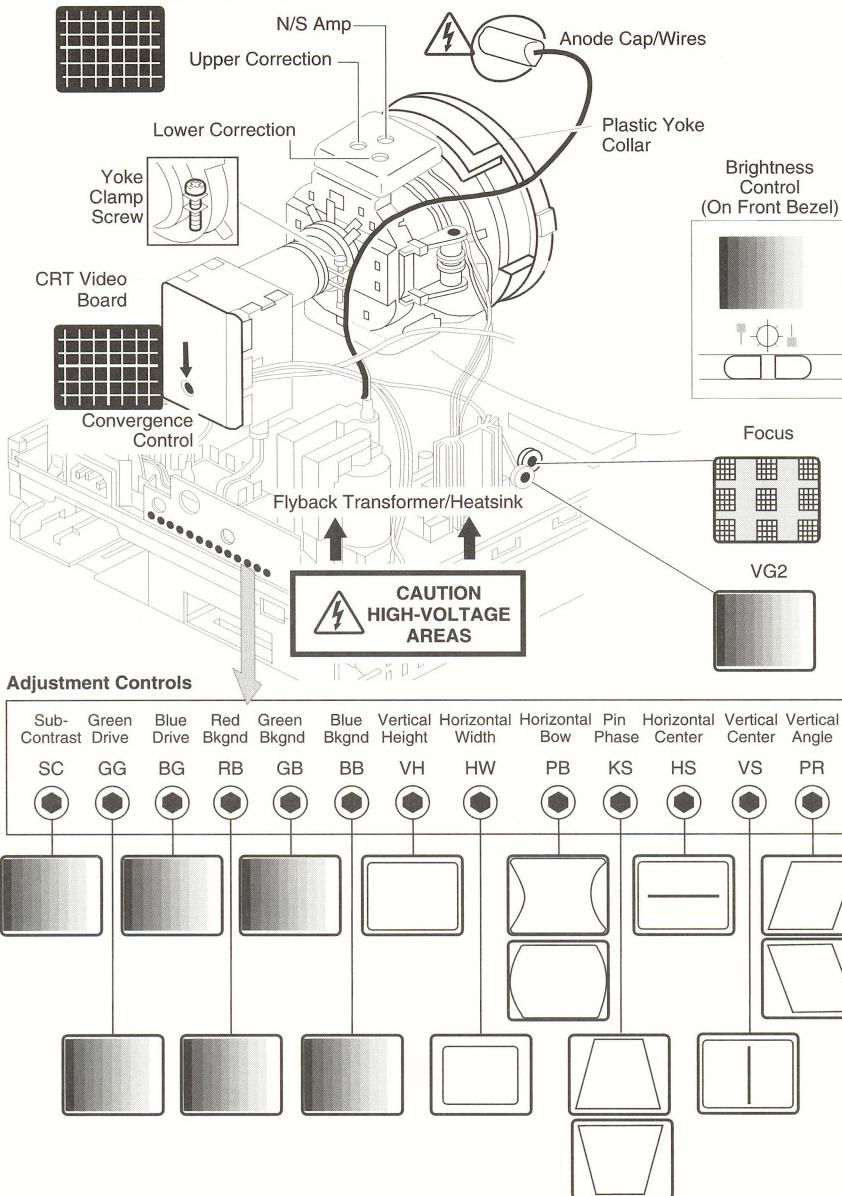

Figure 3 Video Adjustments
Using a hex-head plastic adjustment tool, adjust the vertical and horizontal controls (Figure 3) until the raster is centered in the display area.
1. Adjust the vertical height control (see Figure 3) until the raster is 4.9 inches (\pm 1/16 inch) or 124.5 mm (\pm 1.5 mm). Verify this height.
2. Adjust the horizontal width control (see Figure 3) until the raster is 6.7 inches (\pm 1/16 inch) or 168.5 mm (\pm 1.5 mm).
Using MacTest Pro, display the Focus test pattern. Adjust the focus control until the Focus test pattern is as clear as possible (see Figure 3).
4. Set the red, green, and blue background controls (see Figure 3) to the full counterclockwise positions.
3. If necessary, adjust the blue and green drive controls (Figure 3) until there is no predominant color in the four brightest bars.
3. Adjust the convergence control (see Figure 3) on the CRT video board for best overall convergence.
4. Adjust the N/S amp control (see Figure 3) for best convergence of horizontal lines at the top and bottom of the screen.
4. To determine which control to adjust, compare the display with the distortions shown in Figure 3.
5. Using a hex-head plastic adjustment tool, adjust the appropriate control (see Figure 3 for control locations).
- Pin phase (KS)
- Vertical angle (PR)
- Horizontal bow (PB)